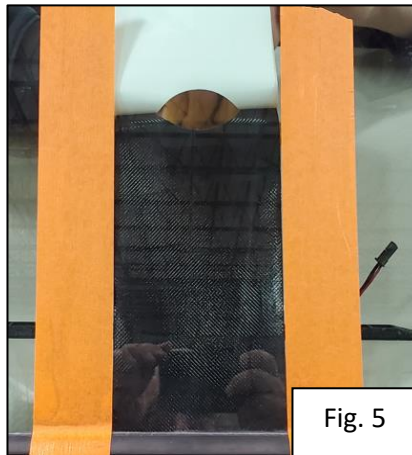

Fig. 5
- C. Remove the liner from another 3-4 inches of the decal or to the bottom of the circle. (Figure 5 – view from exterior)